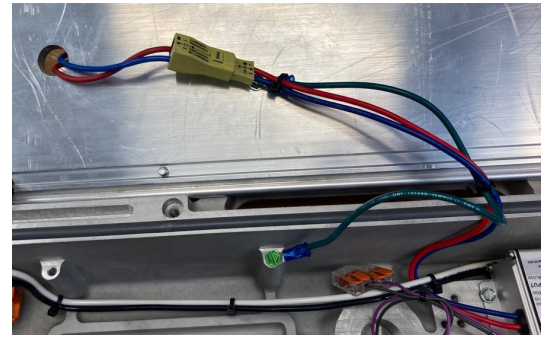

Figure 3. DLLA2 LED light engine wire routing
5. Locate and remove wire tie used to secure LED light engine input wiring (see Figure 3). Use care in removing wire tie so damage is not done to any wires.